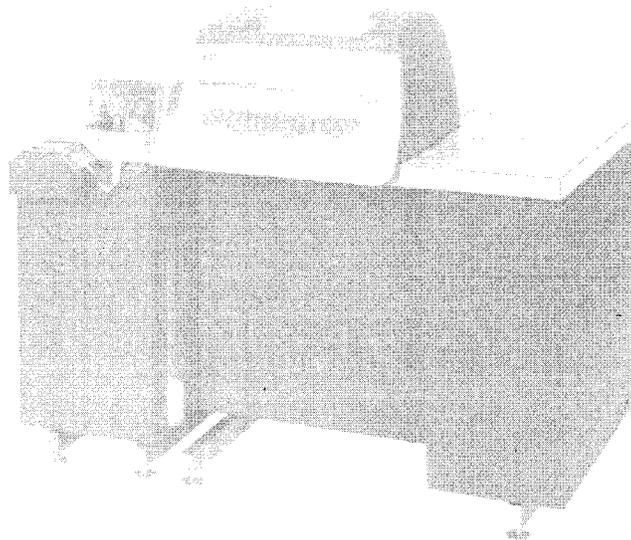

Figure 1 - 37 Automatic Send-Receive (ASR) Teletypewriter Set
1.03 References in the procedures to left or right, up or down, top or bottom, etc, refer to the unit viewed with the keytops and controls facing the front (Figure 1).